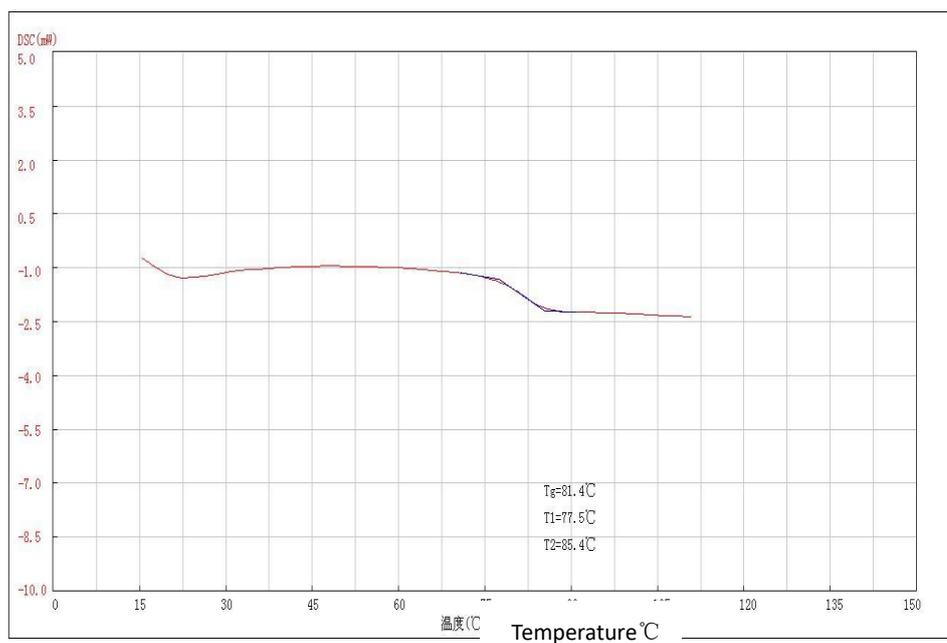

Figure 5.5
14. Figure 5.5 is the data obtained after treatment of a sample. The glass transition temperature of the sample $T_g = 81.4\text{ }^{\circ}\text{C}$, T_1 is the initial temperature of the glass, T_2 of the glass transition temperature of the termination.